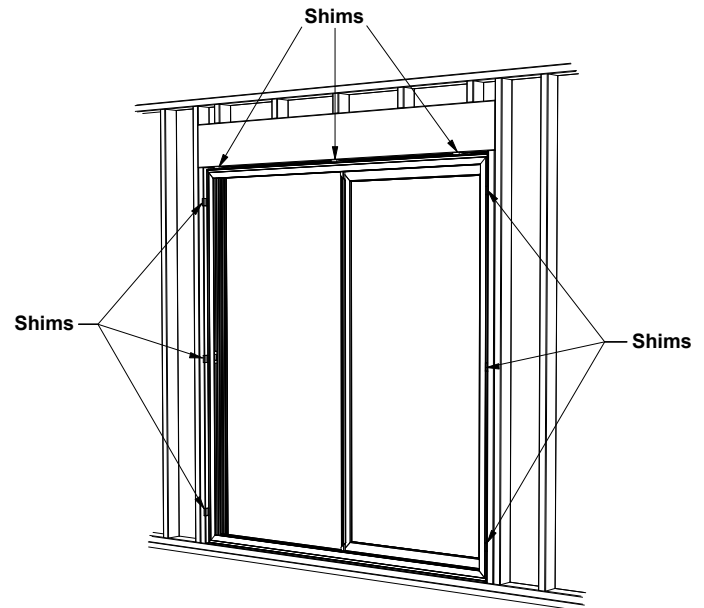

Figure 7—Shim Location
8. If there is a gap between the framing of the wall structure and door frame, place shims in at least three places per side and top (**Figure 7**). Do this from the interior of the home. Shims should be snug, but should not deform the frame.